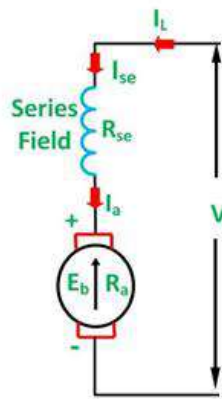

Figure.2.4. Self excited DC generator – Series wound.
2.2.2.1. Series wound motor. In the series motor, the field winding is connected in series with the armature winding. The connection diagram of a series motor is as shown in figure 2.4.